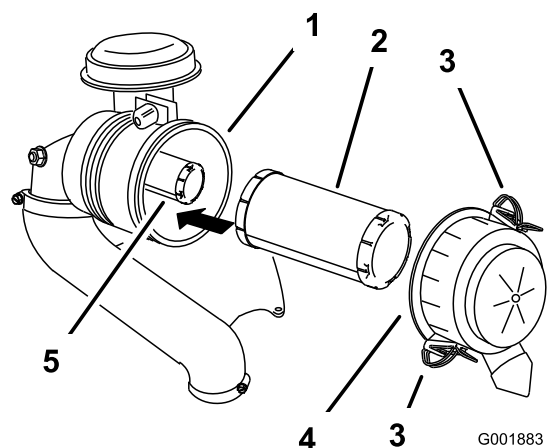

Figure 31
3. Release the latches on the air cleaner and pull the air-cleaner cover off the air-cleaner body (Figure 31).
5. Gently slide the primary filter out of the air-cleaner body (Figure 31).
- If the inner filter is being replaced, carefully slide it into the filter body (Figure 31).
- Carefully slide the primary filter over the inner filter (Figure 31).
- Install the air cleaner cover and secure the latches (Figure 31).